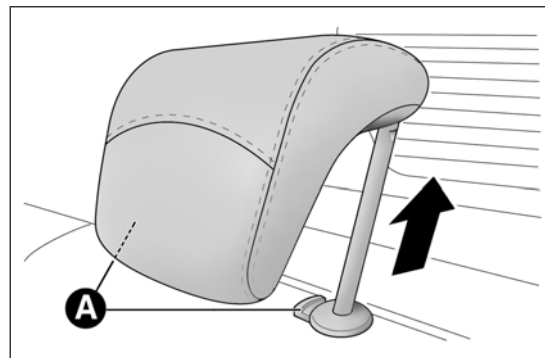

fig. 64
- ❑ raise the head restraints to the maximum height, press both the buttons A fig. 64 to the side of the two supports, then remove the head restraints by sliding them upwards;